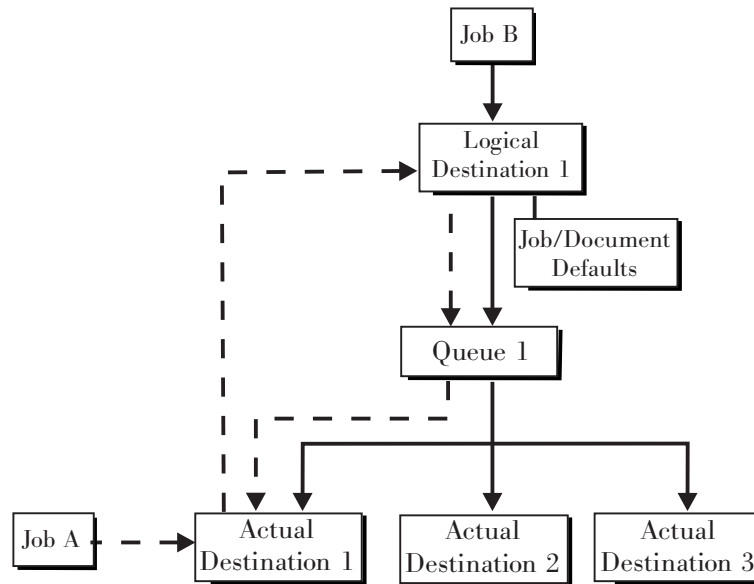

Figure 1. InfoPrint Manager print flow. Job B is submitted directly to a logical destination, while Job A is submitted to an actual destination
In the most common configuration, you submit jobs to an InfoPrint Logical Destination (LD). The LD forwards the job to a print queue, and the print queue forwards the job to an InfoPrint Actual Destination (AD). The AD then sends the job to the printer. See **Job B** in Figure 1 on page 3 for an illustration. This configuration is especially useful if you have multiple printers and want to balance the workload between them.
Another common configuration is to submit jobs directly to the AD. The AD then forwards the job to the LD that is associated with it. The LD sends the job to a print queue, and the print queue sends the job back to the AD where it started. Then, the AD sends the job to the printer. See **Job A** in Figure 1 on page 3 for an illustration. This configuration is particularly useful when you need to make sure jobs are sent to a specific printer.